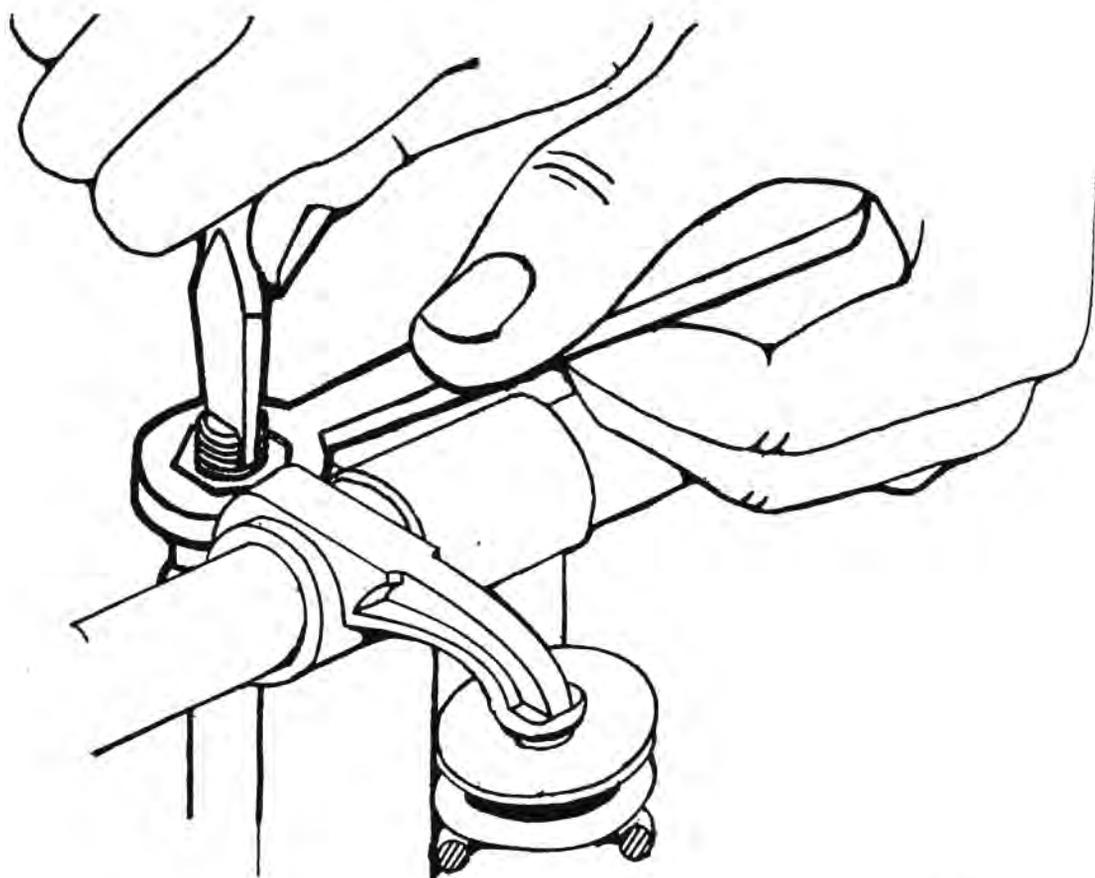

FIG. 13
3. Place a thick bladed screw driver into the slot of the ball pin and wrench over the locking nut. See Figure 13.